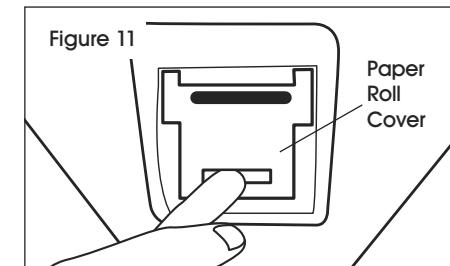

Figure 11
1. Open the paper roll cover by pulling down the cover. (See Figure 11)